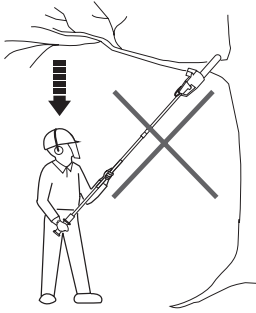

Fig. 27
6. Never stand directly under the limb you are sawing. Objects may fall different than expected. Always position yourself out of the path of falling limbs (Fig. 27).